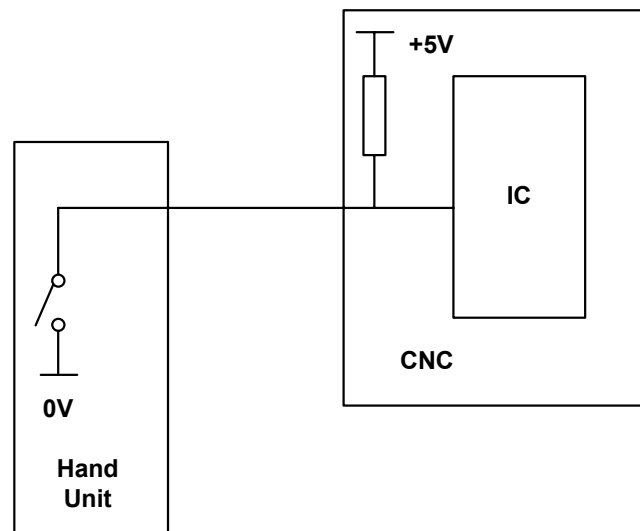

Fig. 3-2-2-1
- b) The axis selection and override signal loop are shown in the Fig. 3-2-2-1